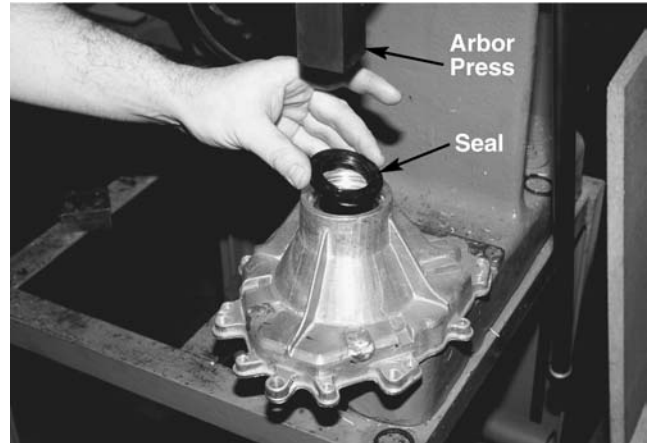

**Figure 10-56.**
16. To remove the bearing from the housing you must first remove the snap ring. See Figure 10-56.